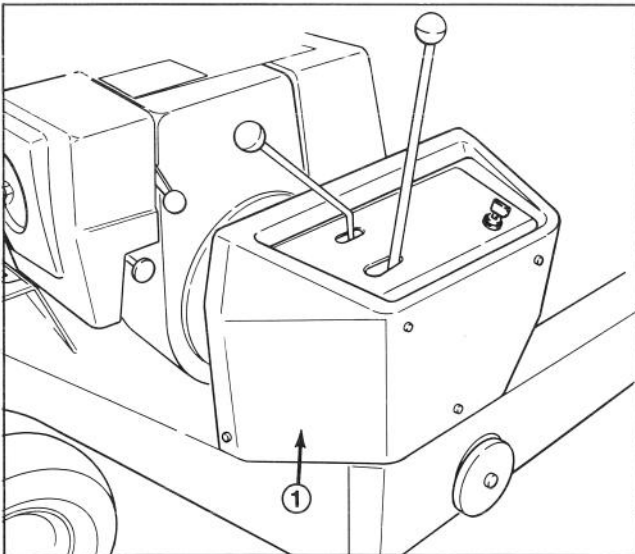

Figure 37
- A. Remove screws securing control cover to chassis and remove cover (Fig. 37).